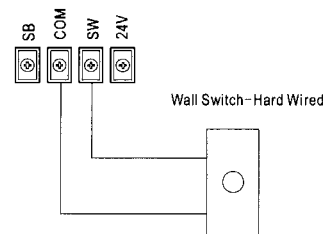

Fig 12C
- Connect the Wall Switch to the Output Terminals depicted in Fig.12C.